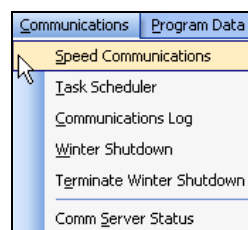

Figure 16.9.1D
1. In the toolbar at the top of the screen select **Communications** then scroll down to **Speed Communications** and click on it (Figure 16.9.1D).